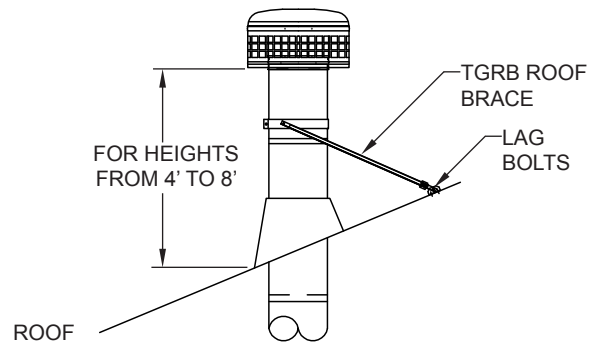

FIG. 28
Select the proper support for your application, using either a roof brace (FIG. 27 on Page 12) or a support band with guy wires (FIG. 28 on Page 12).
3. Position the support legs as shown in FIG. 28 on Page 12. The length of the support legs can be adjusted by loosening the bolt on the leg clamp.